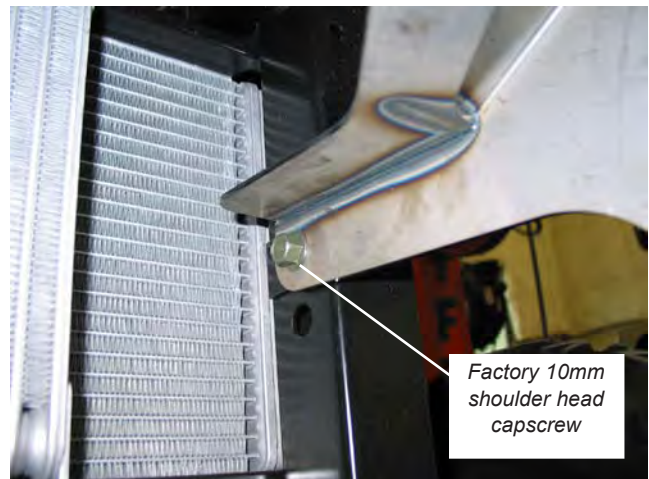

Figure 2
2. Attach bumper to frame through top mounting holes as shown in Figure 2, using two factory supplied 10mm shoulder head cap screws. Hand tighten only at this time.